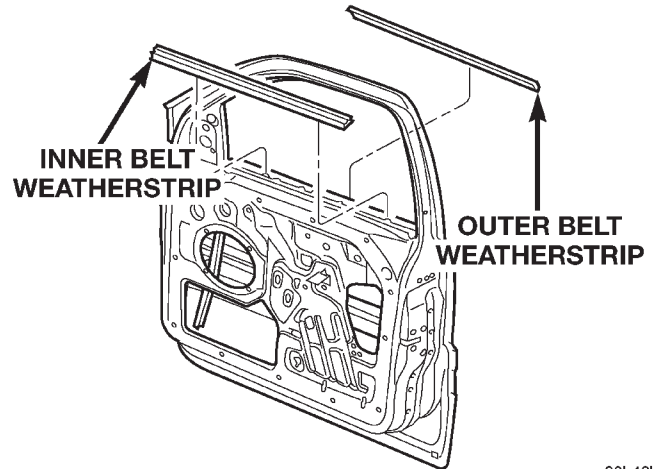

Fig. 25 Inner/Outer Belt Weather Strip
- (1) Remove door trim panel.
- (2) Using a trim stick or other suitable device, carefully pry up inner edge of seal (Fig. 25).
- (3) Grasp the edge of the seal and pull upward to remove seal from door flange.
- (1) Lower the door glass.
- (2) Remove the screw from the inner door panel attaching the seal to outer door panel (Fig. 25).
- (3) Pull the seal rearward to release from the side view mirror bezel.
- (4) Lift seal and separate from door panel.